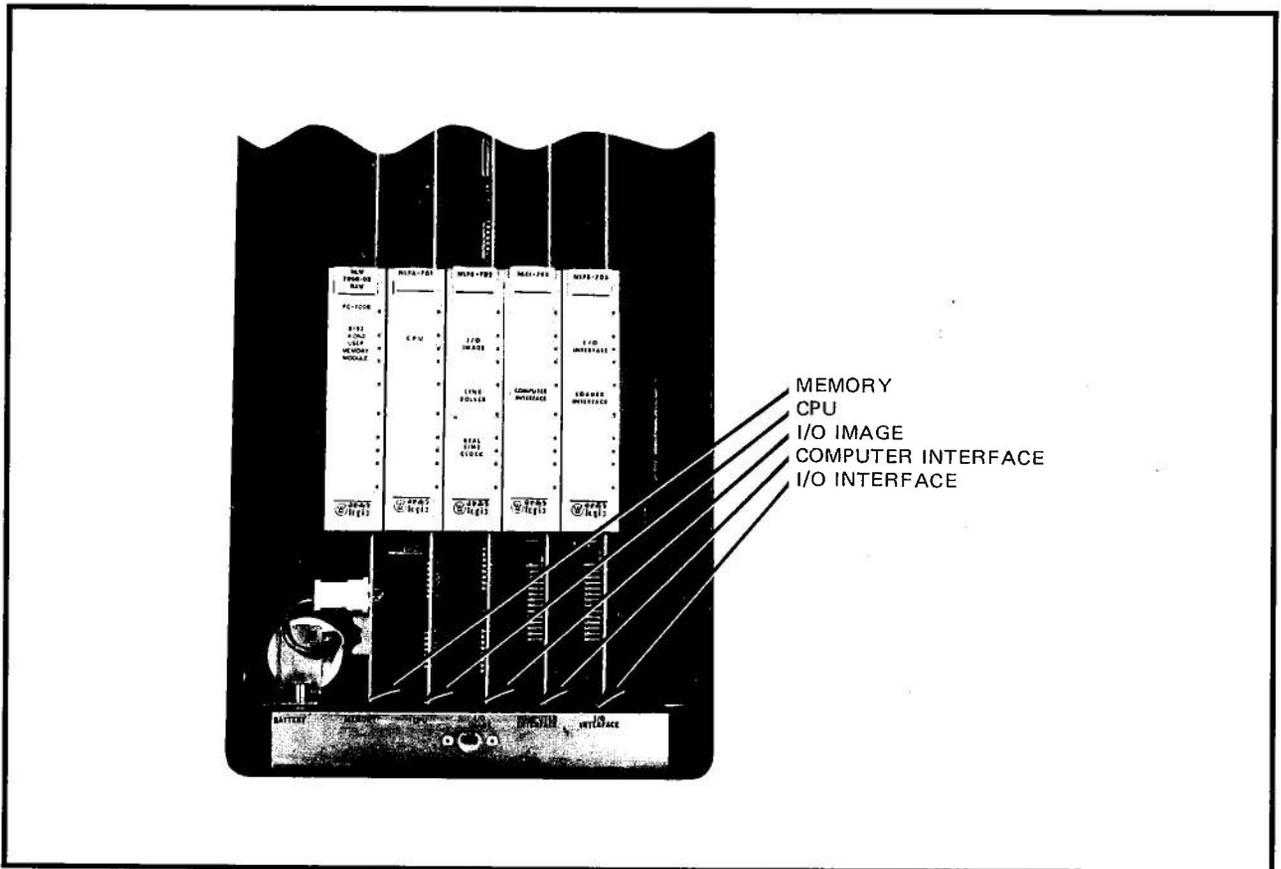
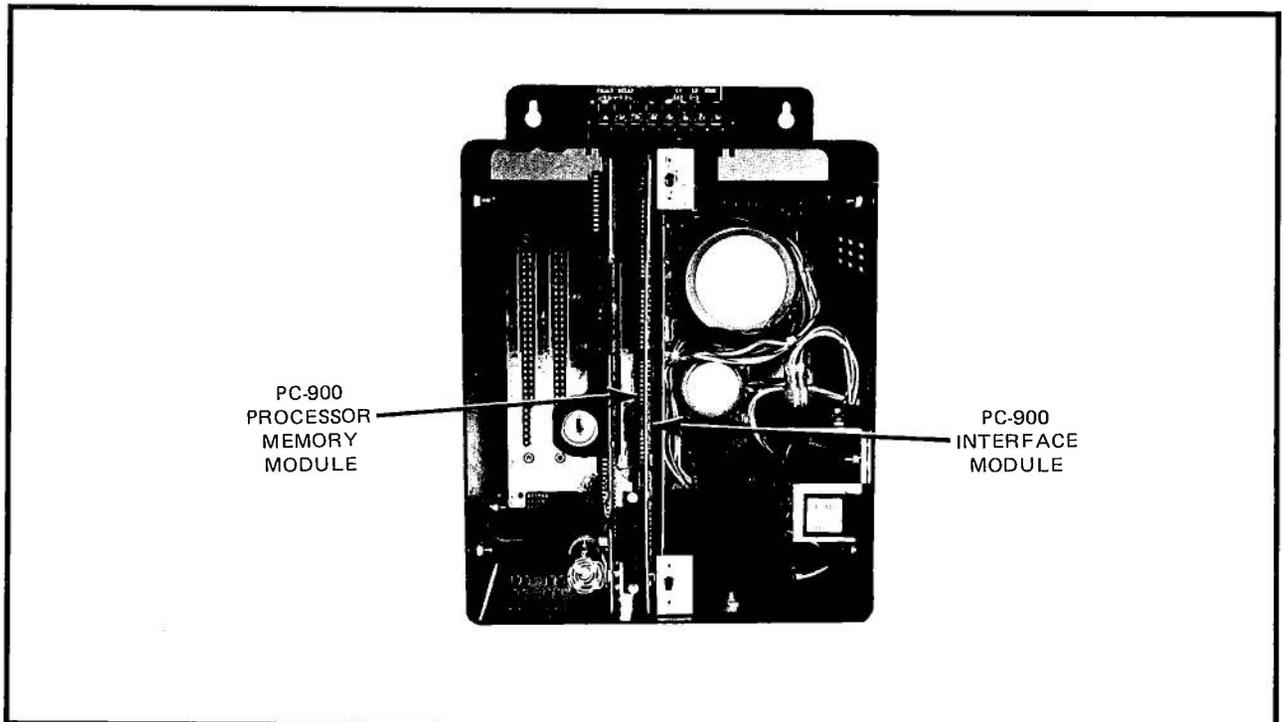

Figure 9-15. PC-700 Module Locations
Figure 9-16. PC-900 Module Locations
- 6. PC-700/900** — Check to see that all internal processor modules are located in proper slots and sealed properly. Figure 9-15 shows the PC-700 module locations and Figure 9-16 shows the PC-900 module locations.